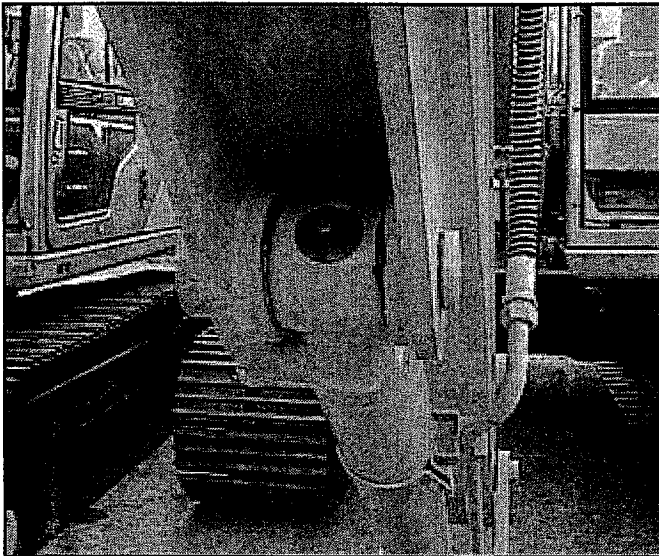

FIGURE 4.106
7. Bucket Cylinder Head end pin. See Figure 4.106.